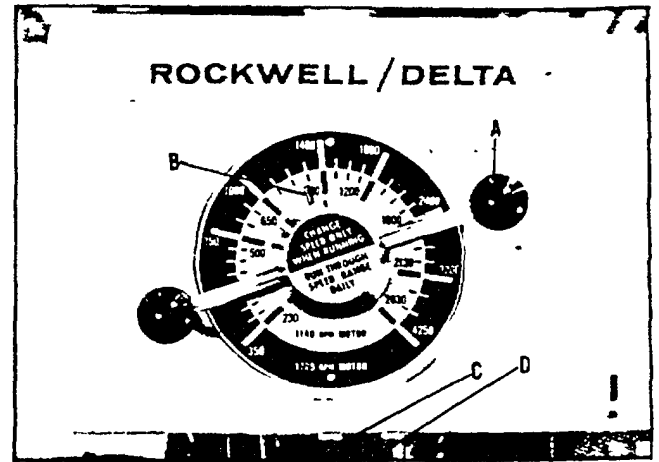

Fig. 5
The pilot wheel (A) -Fig. 5, for Variable Speed Drive should not be turned except when the motor is running, to avoid putting unnecessary strain on the variable speed drive belt and variable speed drive pulley assembly. The pilot wheel is turned clockwise to make the drill press run faster, and counterclockwise to slow it down.
While changing speeds the pointer (B) Fig. 5, on the speed dial will indicate the speed of the drill press.